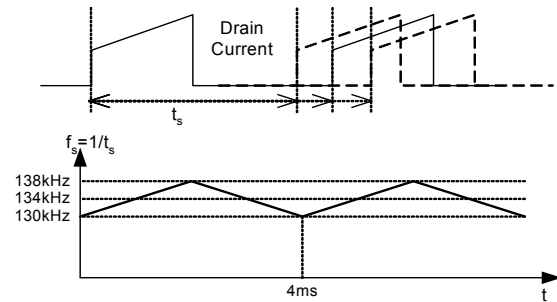

Figure 13. Frequency Modulation Waveform
**7. Frequency Modulation :** Modulating the switching frequency of a switched power supply can reduce EMI by spreading the energy over a wider frequency range than the bandwidth measured by the EMI test equipment. The amount of EMI reduction is directly related to the depth of the reference frequency. As can be seen in Figure 13, the frequency changes from 130KHz to 138KHz in 4ms for the FSD200B/210B. Frequency modulation allows the use of a cost effective inductor instead of an AC input mode choke to satisfy the requirements of world wide EMI limits.